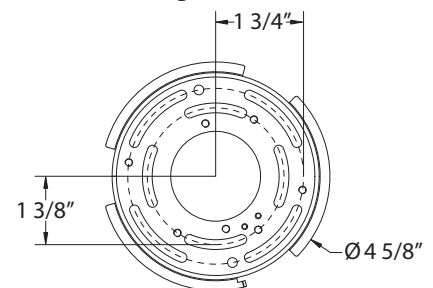
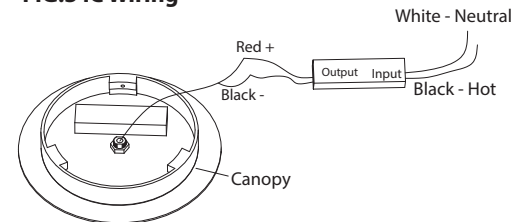

FIG.3 IC Wiring
FIG.2 Wiring
NOTE: Due to limited space within the canopy, shorten the cable as necessary to make the installation easier. Make sure to identify and label all the wiring properly before any trimming/shortening. (Fig. 3)
CONNECTING THE WIRES (Fig. 2/Fig. 3)
8. Connect the IC's output wires to fixture wire as shown in Fig. 3, red to the red, and black to the black, make sure that wire connectors (A) are secured. Then tuck them inside the canopy. Connect the IC's input wires to junction box wires as shown in Fig. 2, making sure that all wire connectors (A) are secured. If your outlet box has a green or bare copper ground wire, connect the fixture's ground wire to it. Otherwise, connect the fixture's ground wire directly to the back plate using the screw provided. After wires are connected, tuck them carefully inside the junction box.